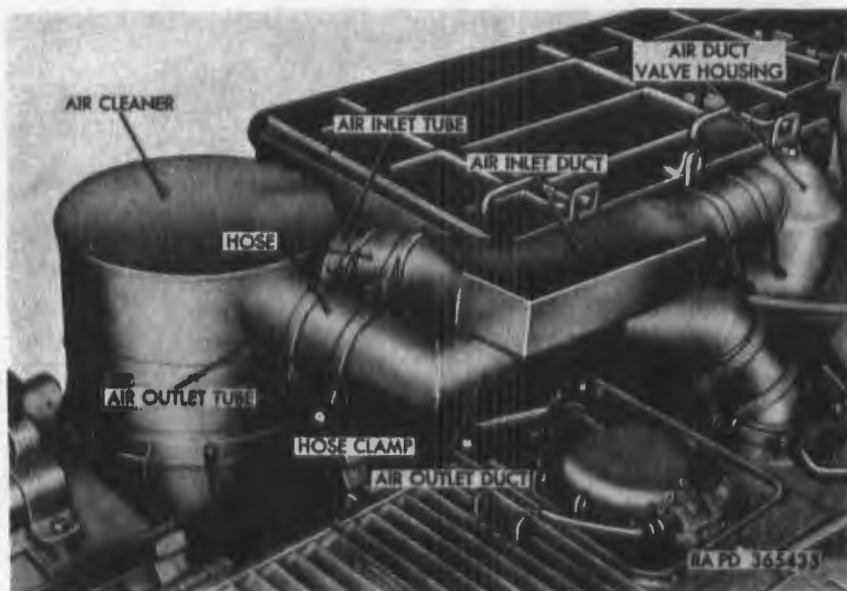

Figure 132. Air intake system—left side.
b. Air Cleaner Air Inlet and Air Outlet Ducts (fig. 132). The air cleaner, air inlet, and air outlet ducts direct air for the main engine carburetors, from the air duct valve housing, to the air cleaner; and from the air cleaner to the carburetor elbow. Air can be drawn from either the stowage compartment or outside the vehicle. The source of air is controlled by the air duct valve within the air duct valve housing. For cold weather operation, loosen the hex-head bolt securing the air duct valve housing and rotate the air duct valve so that air is drawn from outside the vehicle. For normal operation, air is drawn from the stowage compartment. During cold weather operation, air must be drawn from outside the vehicle since the main engine draws so large a volume of air the pressure in the driving compartment may drop, causing the personnel heater to operate inefficiently.
- (1) Remove oil cup and filter element (*a*(1) above).
- (2) Loosen hose clamps (fig. 132) and on the inlet and outlet hose and remove hose from air cleaner inlet and outlet tubes.
- (1) Spread both mounting brackets and then lower air cleaner with oil cup removed, into position so that small ridge of air cleaner (fig. 130) is even with top edge of upper mounting bracket. Air inlet and outlet tubes (fig. 132) on air cleaner should be turned toward power plant. Secure with two $\frac{5}{16} \times 1\frac{1}{2}$ squarehead bolts and $\frac{5}{16}$ -inch hex nuts.
- (2) Position hose (fig. 132) on air cleaner inlet and outlet tubes and tighten hose clamps securely.